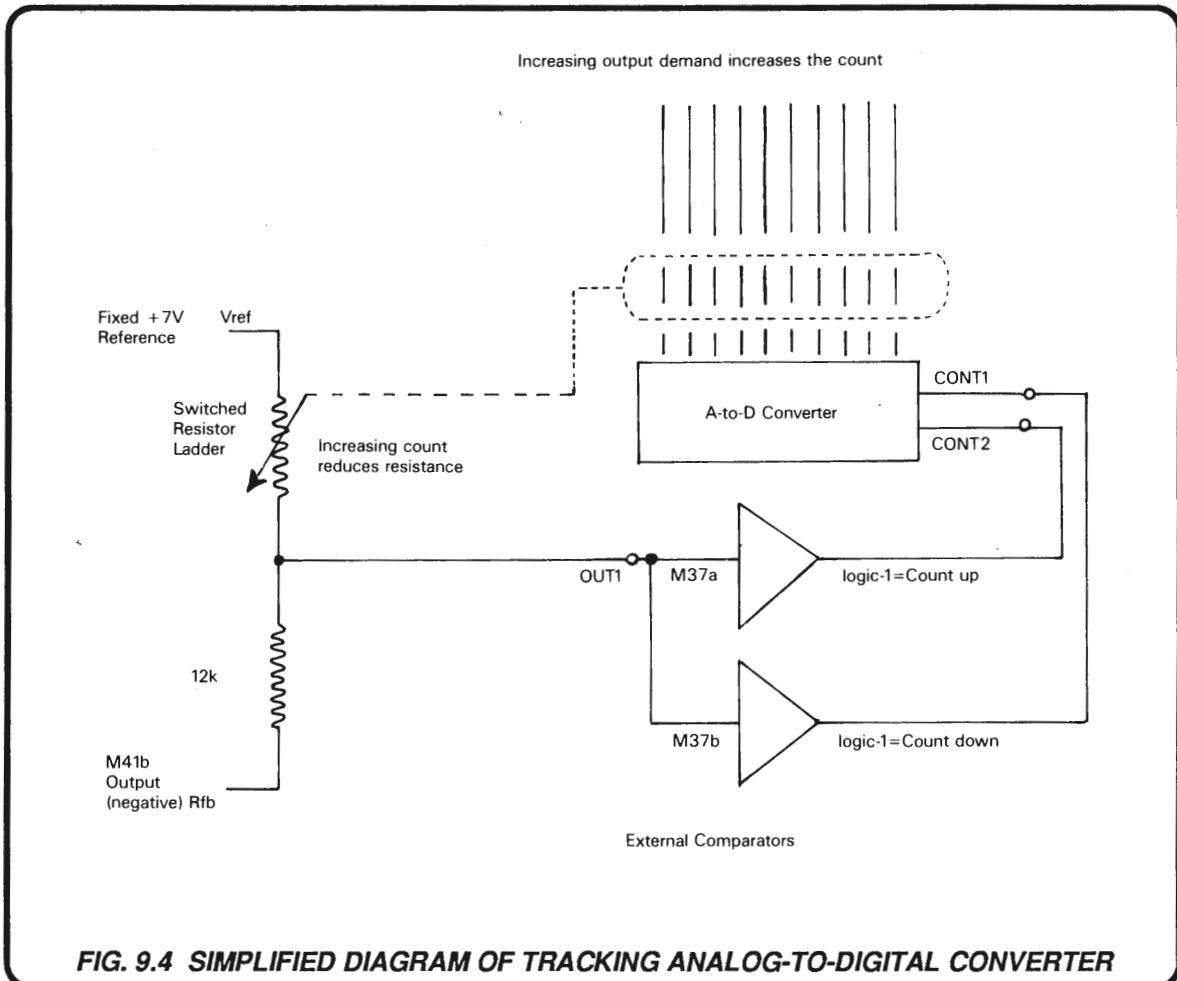

FIG. 9.4 SIMPLIFIED DIAGRAM OF TRACKING ANALOG-TO-DIGITAL CONVERTER
9.3.2.2 Tracking ADC M38 (*Fig.9.4*)
An internal 12kΩ reference resistor and switched resistor ladder form a divider between pin 27 (V_{REF}) and pin 1 (R_{FB}). Their junction is brought out to pin 2 (OUT 1). (*See Figs. 9.4 and 9.5*.)